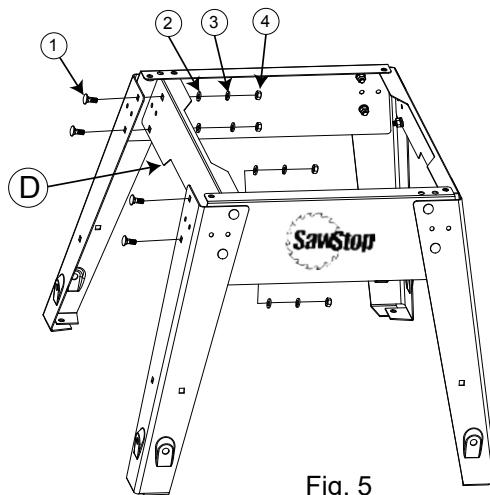

Fig. 5
- Repeat the prior step to attach the remaining side panel marked D to the opposite side of the stand (see Fig. 5).